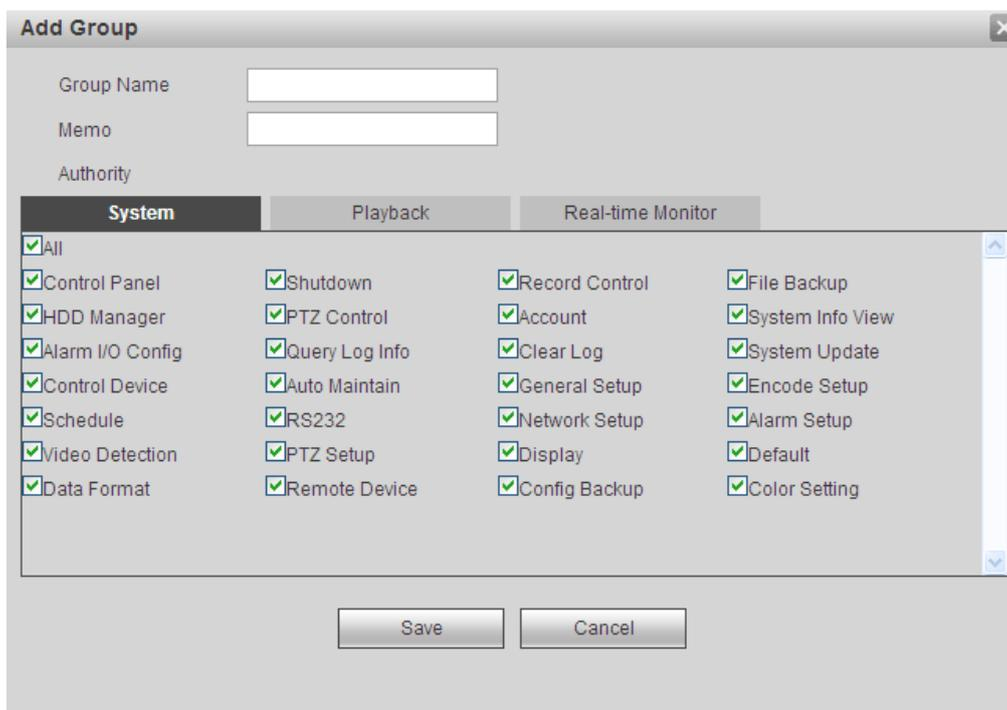

Figure 7-97
**Add group:** It is to add group and set its corresponding rights. See Figure 7-97.